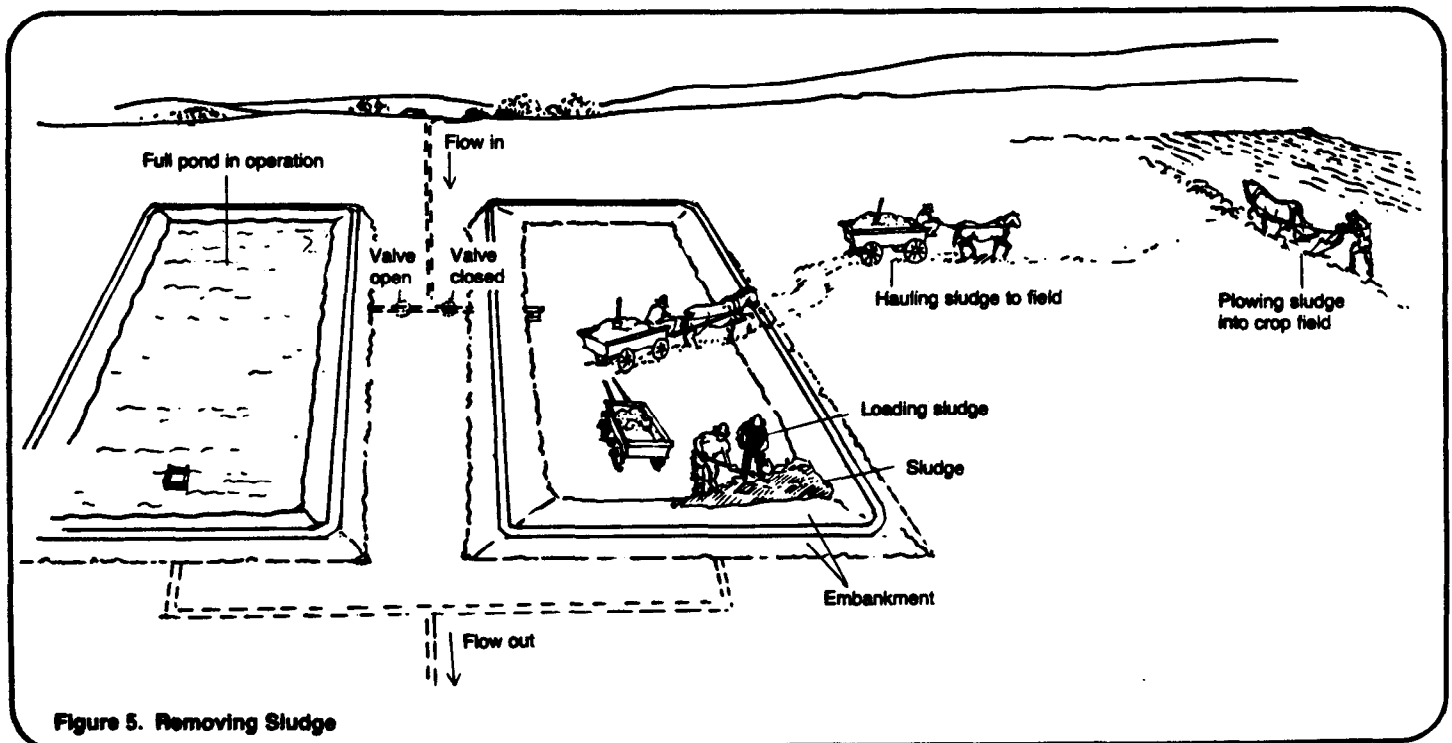

Figure 5. Removing Sludge
**Removing Sludge.** Allow the sludge to dry in the sun. This may take several weeks depending on local conditions. When the sludge is fairly dry, it can be handled with a front-end loader, animal-drawn scoops, or shovels. Load the sludge on trucks or carts and haul it away. See Figure 5. A thin layer of sludge can be left on the bottom of the pond to help begin the biological processes when the pond is put back into operation.